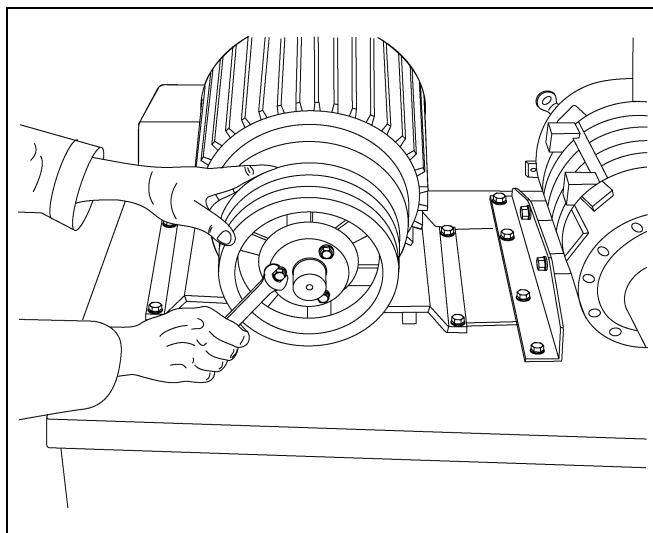

Figure 7E
4. Place the specified pulley onto the motor and align it with the blower pulley. (See Figure 7E.)